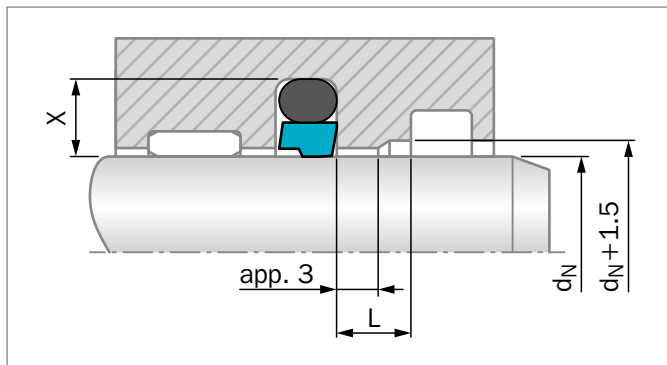

Figure 5: Recommendation for groove spacings between grooves
- Oil reservoir for collecting the returning oil as shown in Figure 5.